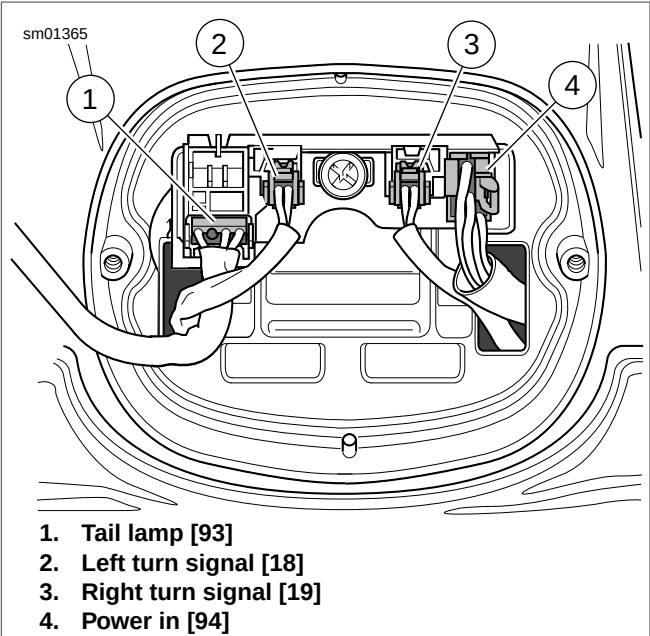

Figure 6-65. Tail Lamp Base Connectors (Typical, XL Models Shown)
9. See Figure 6-65. Install connectors to circuit board.